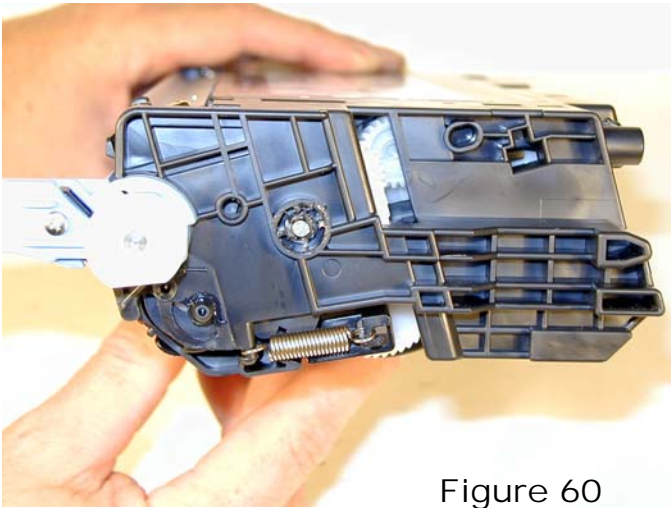

Figure 60
40) Install the springs on each side of the cartridge. See **Figures 60 & 61**